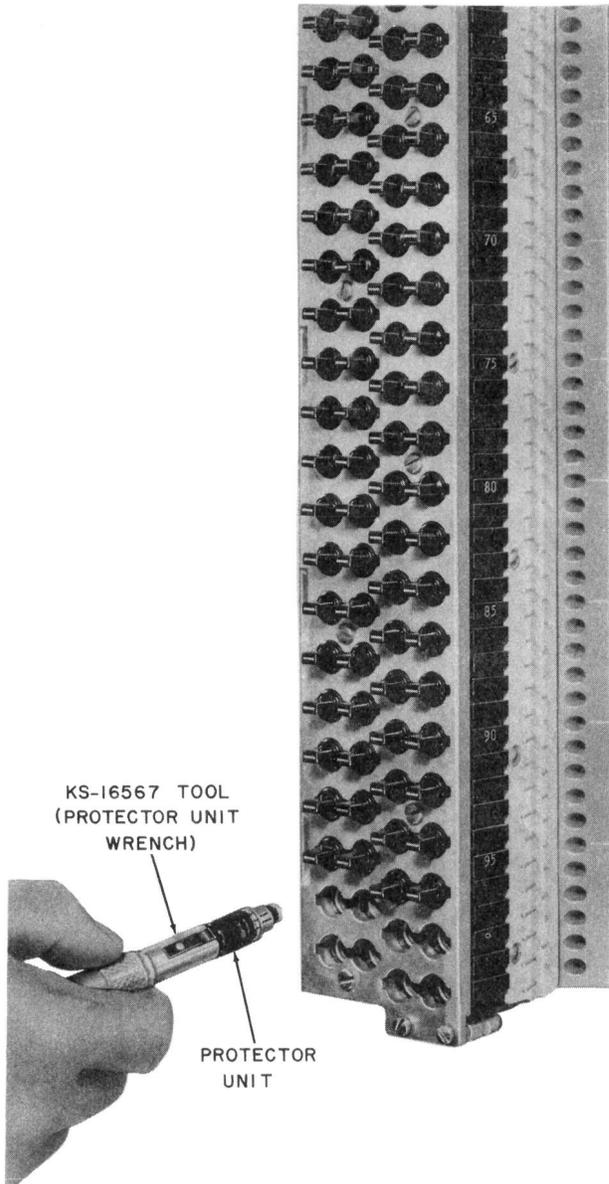

Fig. 8—Installing Protector Units Into Connector Block
- 3.07** The protector units are inserted into and removed from the connector with a KS-16567 tool (protector unit wrench) as shown in Fig. 8. To remove a protector unit, grasp the protector unit cap and rotate it 45° counterclockwise; then withdraw the protector unit.